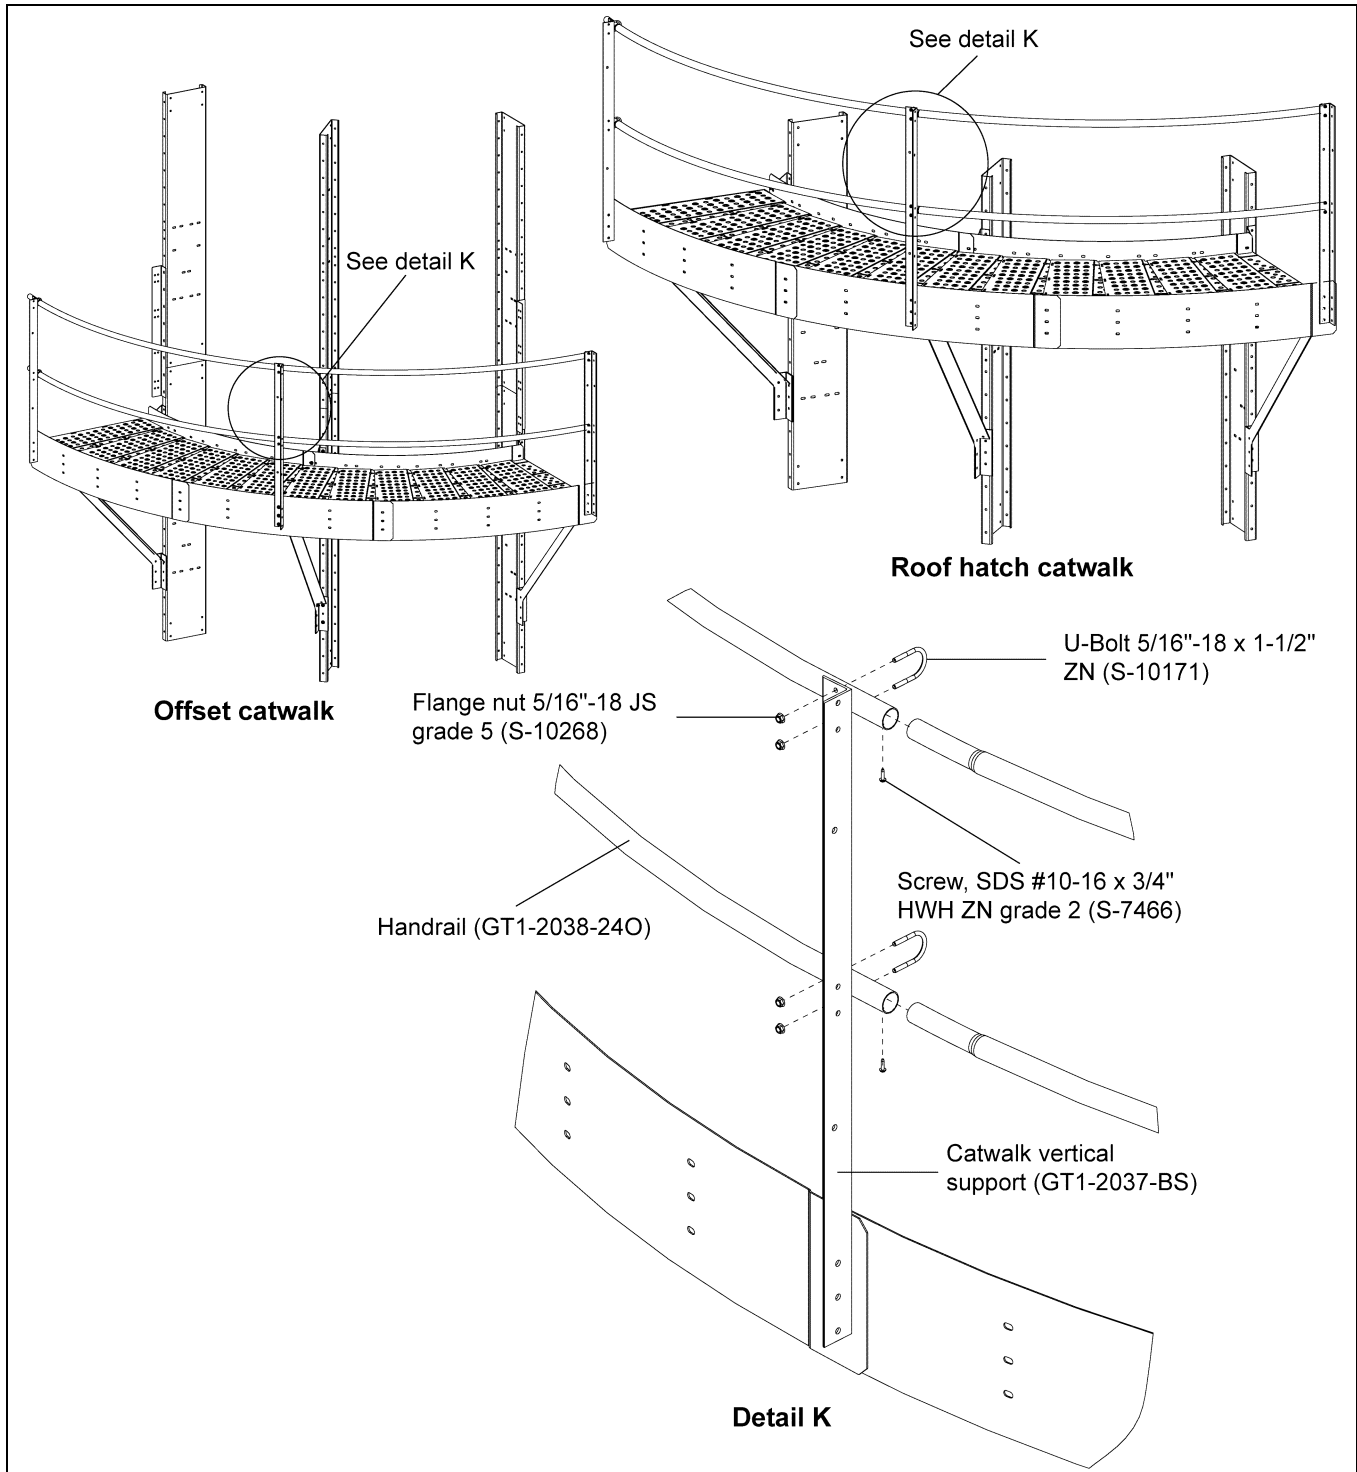

Figure 6U Handrail (GT1-2038-300) Installation for Offset and Roof Hatch Catwalks
1. Install the long handrail (GT1-2038-120) to the catwalk vertical support (GT1-2037-BS) using 5/16"-18 ZN U-bolts (S-10171) and 5/16"-18 JS grade 5 nuts (S-10268) to tighten the handrail with vertical post. *(See Figure 6U.)*
2. Use the self-tapping screw SDS #10-16 x 3/4" HWH ZN grade 2 (S-7466) at all handrail pipe joints. *(See Figure 6U.)*